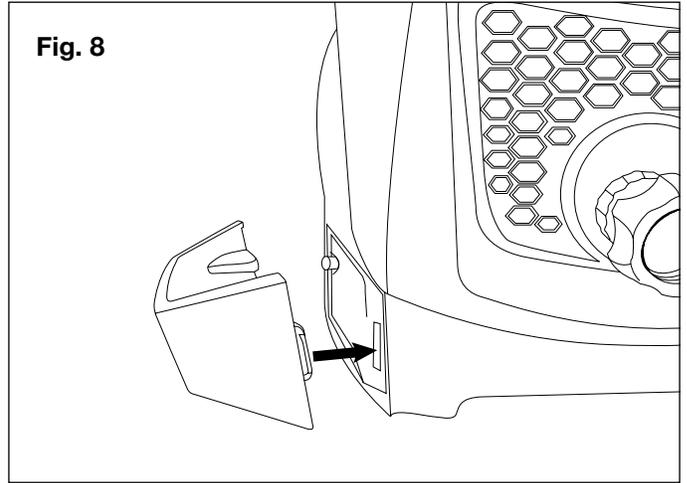

Fig. 8
7. To assemble the spray wand protector, snap the tab into the slot located at the bottom left side of the unit and secure it in place with small screw (Figs. 8 & 9).